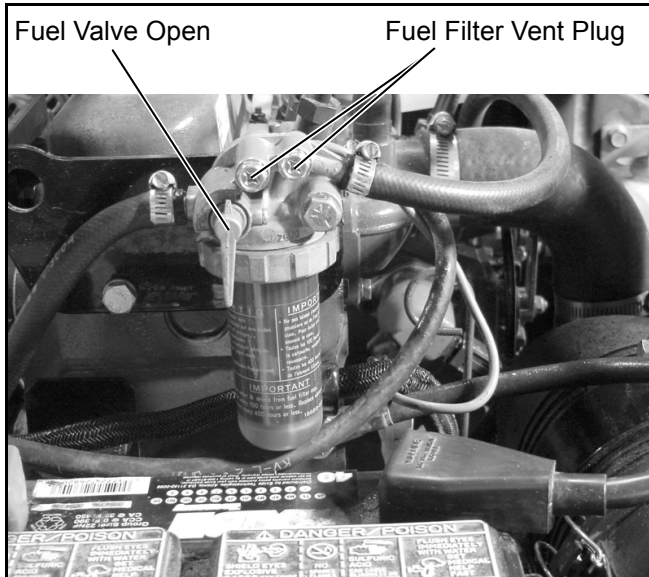

Figure 3D-9. Open Fuel Valve and Vent Plug
2. Close the fuel filter valve (Figure 3D-9).